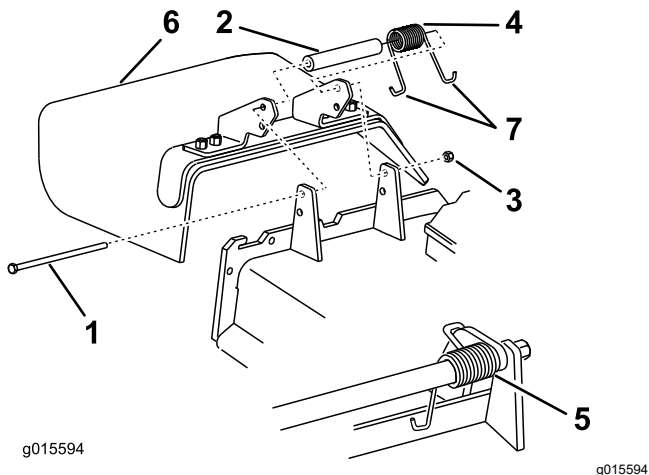

Figure 87
1. Remove the locknut, bolt, spring, and spacer holding the deflector to the pivot brackets (Figure 87).
2. Remove the damaged or worn grass deflector (Figure 87).
**Note:** Make sure that 1 J-hook end of the spring is installed behind the deck edge before installing the bolt as shown in Figure 87.
6. Place 1 J-hook end of the spring around the grass deflector (Figure 87).